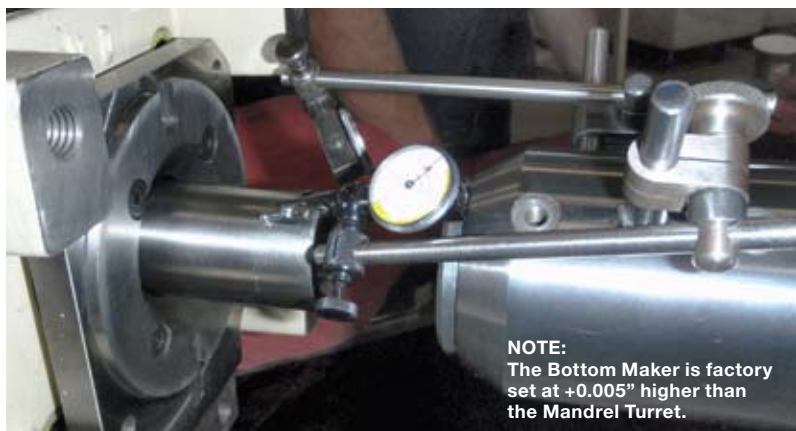

Figure 4: Using a Dial Indicator to verify Height, Concentricity and Parallelism.
- 5) Remove all the tooling from the Bottom Maker, exposing the full length of the Draw Punch Shaft as shown in Figure 4.